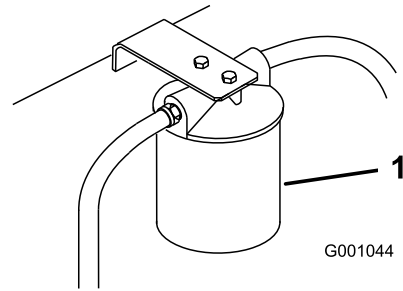

Figure 51
3. Place a drain pan under filter, remove the old filter and wipe the filter adapter gasket surface clean (Figure 51).